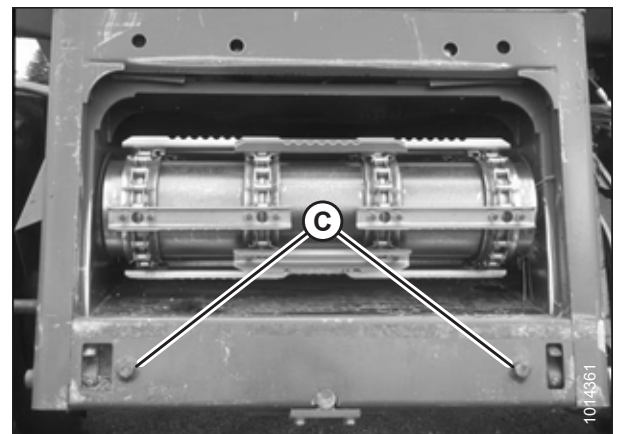

Figure 5.11: AGCO Group Alignment Pins
3. Start the engine and slowly approach the header until the feeder house is directly under float module top cross member (A) and alignment pins (C) (refer to Figure 5.11, page 87) on the feeder house are aligned with holes (B) in the float module frame.